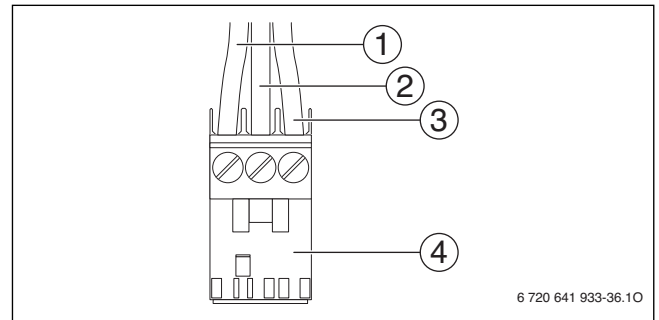

Fig. 51 Attach plug (mains power supply)
- ▶ Connect cable to **the white plug** according to Fig. 51.
- ▶ Connect the lead labeled BOILER GROUND (green) to pin 2 (center, → Fig. 51 [2]) of the white plug in the boiler junction box.